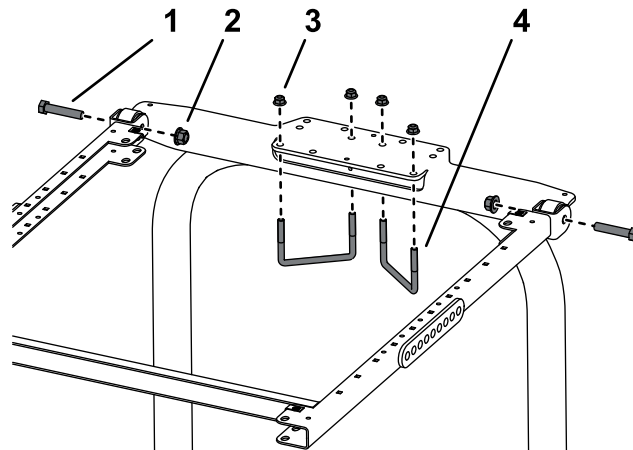

Figure 22
6. Position the ROPS-mount bracket onto the top of the traction unit roll bar (Figure 22).
7. Using the mounting holes shown in Figure 22, mount the bracket to the top of the roll bar with 2 U-bolts (4-7/8 x 2-3/4 inch) and 4 flange nuts.